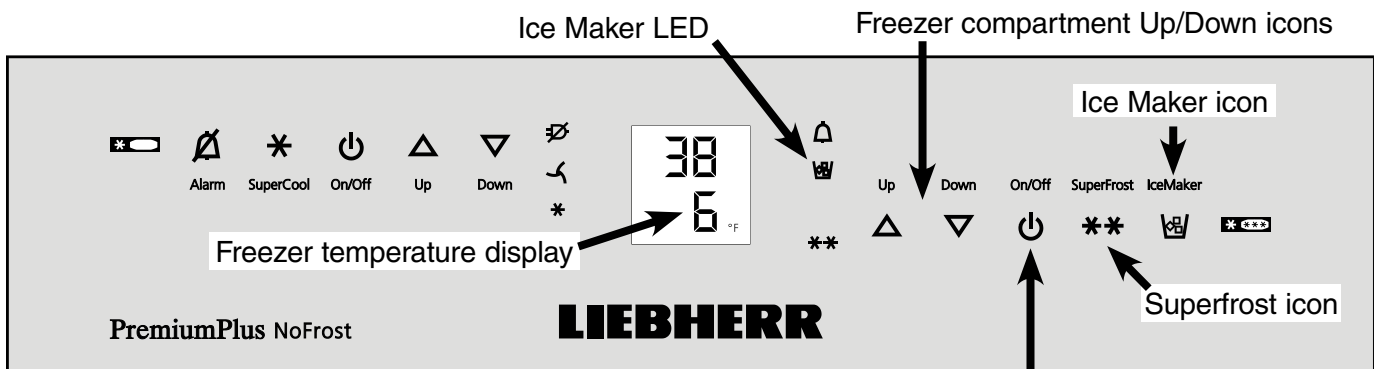

Figure 22
- Turn the Ice Maker on by touching the Ice Maker icon (**Figure 22**).
- Touch the **Ice Maker icon** so the **Ice Maker LED** comes on (**Figure 22**).